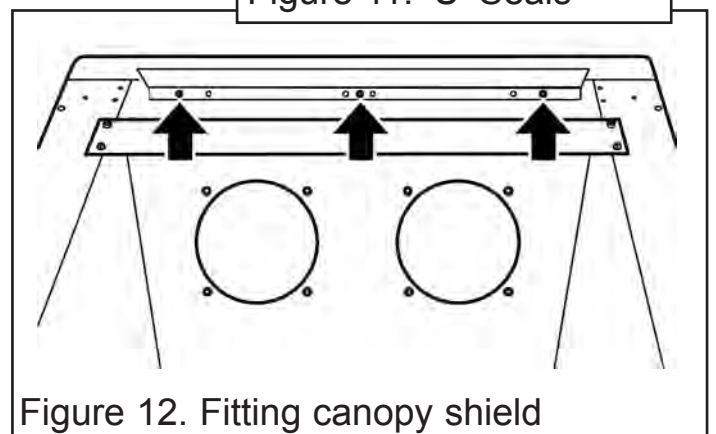

Figure 12. Fitting canopy shield
6. The heat engine or fascia will have a canopy shield supplied with it. Fit this to the convected air outlet of the appliance using the three self tapping screws supplied. The design of the canopy shield may differ from that shown (See figure 12).